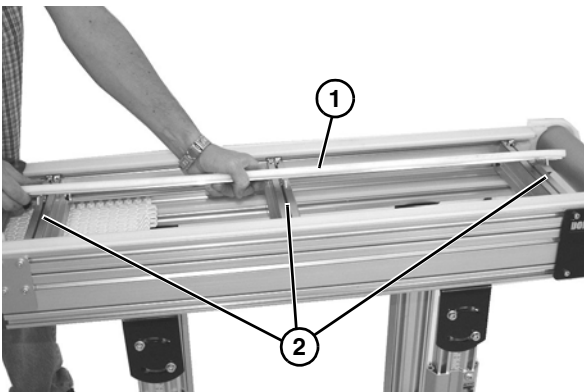

Figure 21
4. Remove center frame channel (**Figure 21, item 1**), making sure to keep each clamp matched with channel of each cross member (**Figure 21, item 2**).